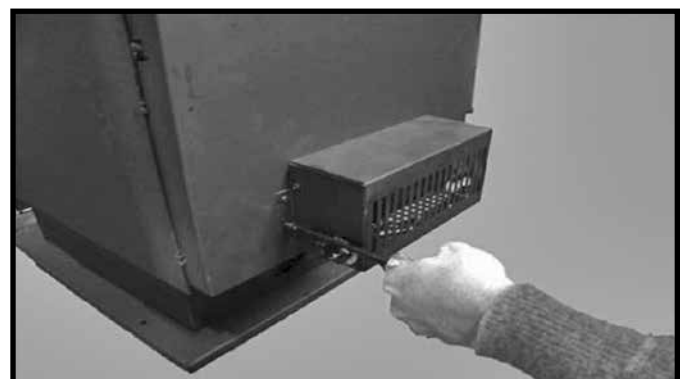

Figure 11: Installing the blower.
2. Using the same 4 screws, place the blower into the opening in the rear shield with the blower outlet pointing up (Figure 11).